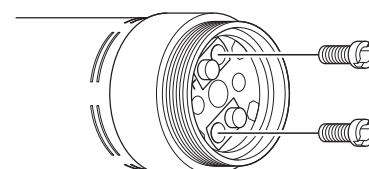

Fig. 12
- 2) Use a flat-head screwdriver to remove the screws securing the carbon brush (Fig. 12).